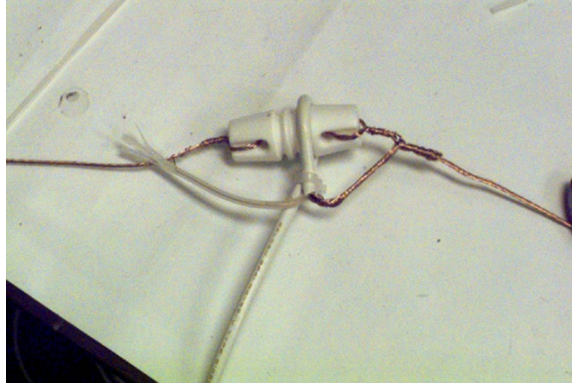

Figure 5.3 – Tie wrap the coax over the center insulator. Wrap the center conductor around one side of the dipole and the twisted shielding around the other.
5. ○ Loop the coaxial cable over the center insulator and tie wrap it (Figure 5.3) just below the section of stripped coax using one of the black tie wraps provided in the kit. This will provide strain relief so the solder joints will not break.
6. ○ Wrap the bare center conductor around the end of one of the copper wires attached to the center insulator. Wrap the twisted shielding around the other copper wire attached to the center conductor (see Figures 5.3 and 5.4).